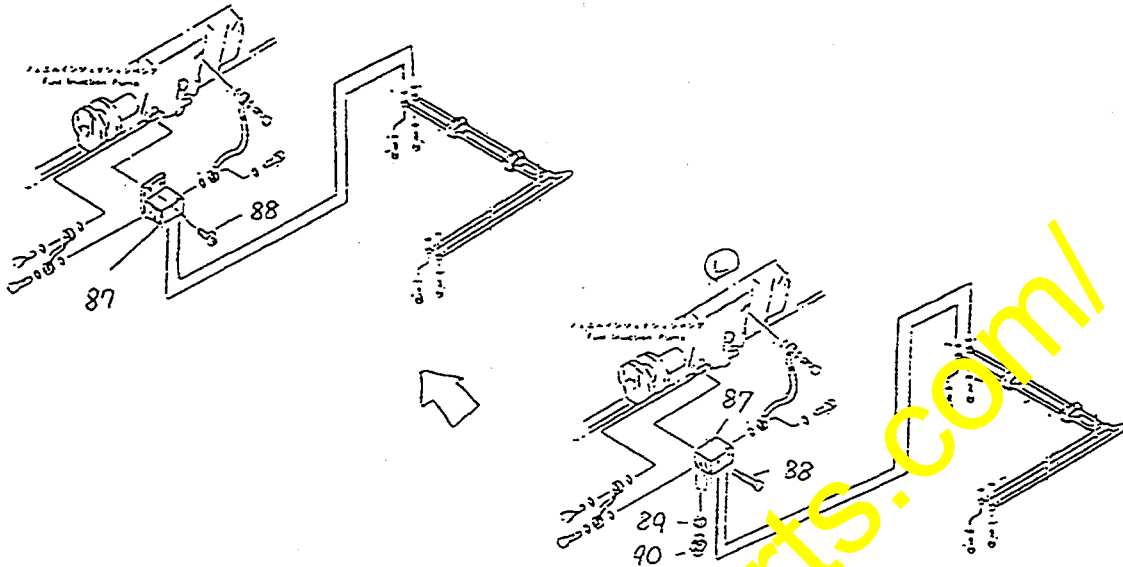

Fig. 54
② Common fuel piping connector on HD785-3 with mechanical governor (Fig. 54)